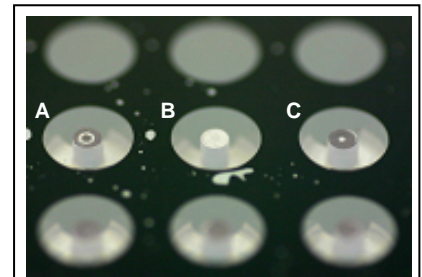

Figure 3. Stoppers that are:
2. Visually inspect the underside of the populated 96-well plate to ensure that the Oris™ Cell Seeding Stoppers are firmly sealed against the bottom of the plate. To inspect the stoppers, turn the plate over and examine the stoppers for sealing (see Figure 3). If incomplete sealing is observed, return the plate to the upright position and use a sterile instrument to gently push the stopper back into the well until sealing is observed.